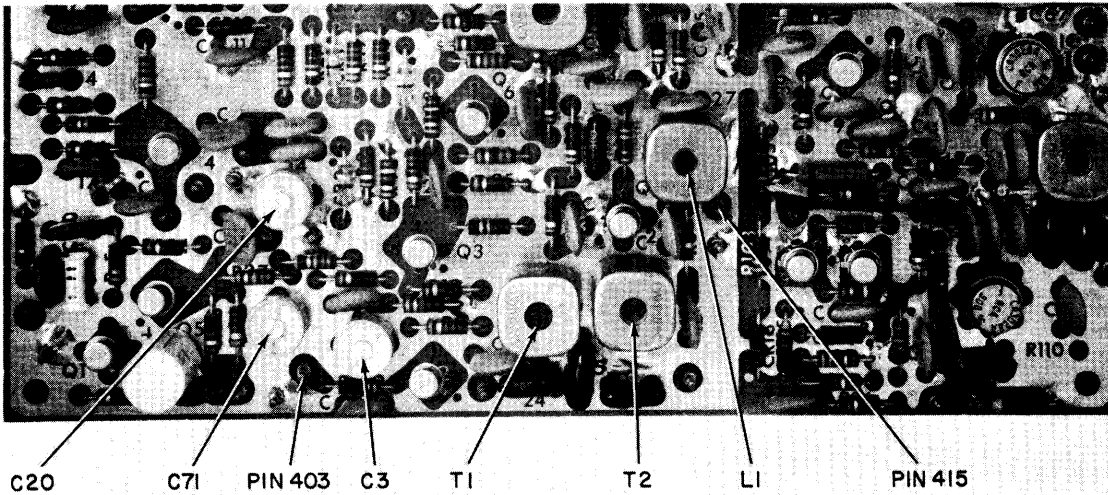
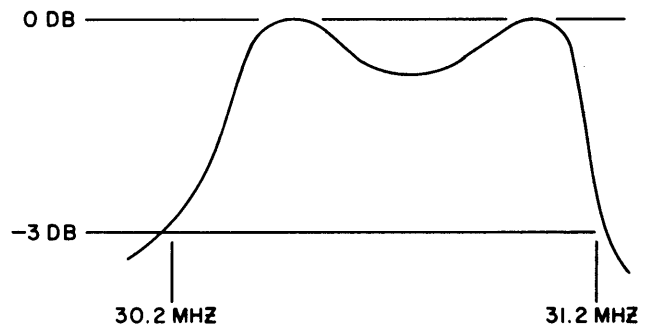

Figure 5-14. Location of Pins and Adjustments on IF Board
Figure 5-15. Response Curve for 30.2 to 31.2 MHz Bandpass Adjustments
6. Disconnect wire no.4 from IF board input pin 403. (PTO A input to IF board, see Figure 5-14.)
8. Connect an RF detector probe and oscilloscope to IF board output pin 415 (30.2 to 31.2 MHz test point, see Figure 5-14).
9. Tune IF board transformer T1, T2, and inductor L1 (see Figure 5-14) for the response curve shown in Figure 5-15.
12. Connect the RF millivoltmeter to IF board output pin 415 (see Figure 5-14).
13. Adjust IF board capacitor C71 (see Figure 5-14) for a 600 MVRMS indication on the RF millivoltmeter.
15. Adjust IF board capacitor C20 (see Figure 5-14) for a 600 MVRMS indication on the RF millivoltmeter.
20. Adjust IF board capacitor C3 (see Figure 5-14) for a 600 MVRMS indication on the RF millivoltmeter.